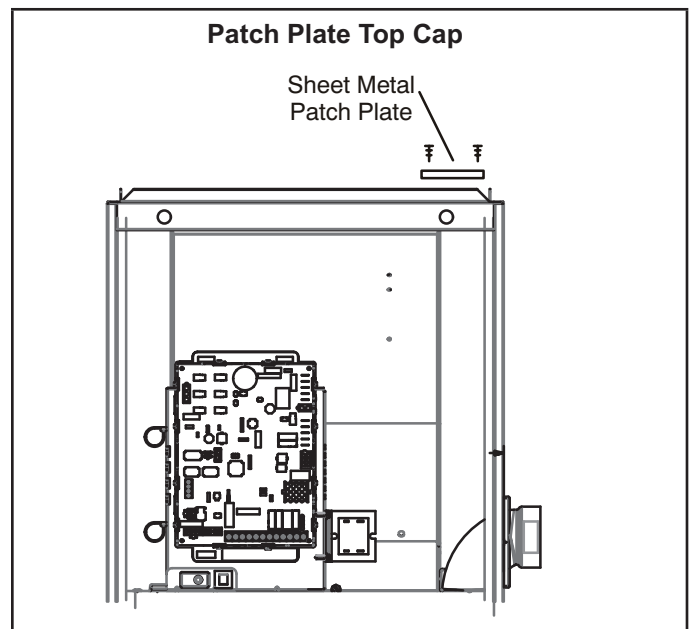
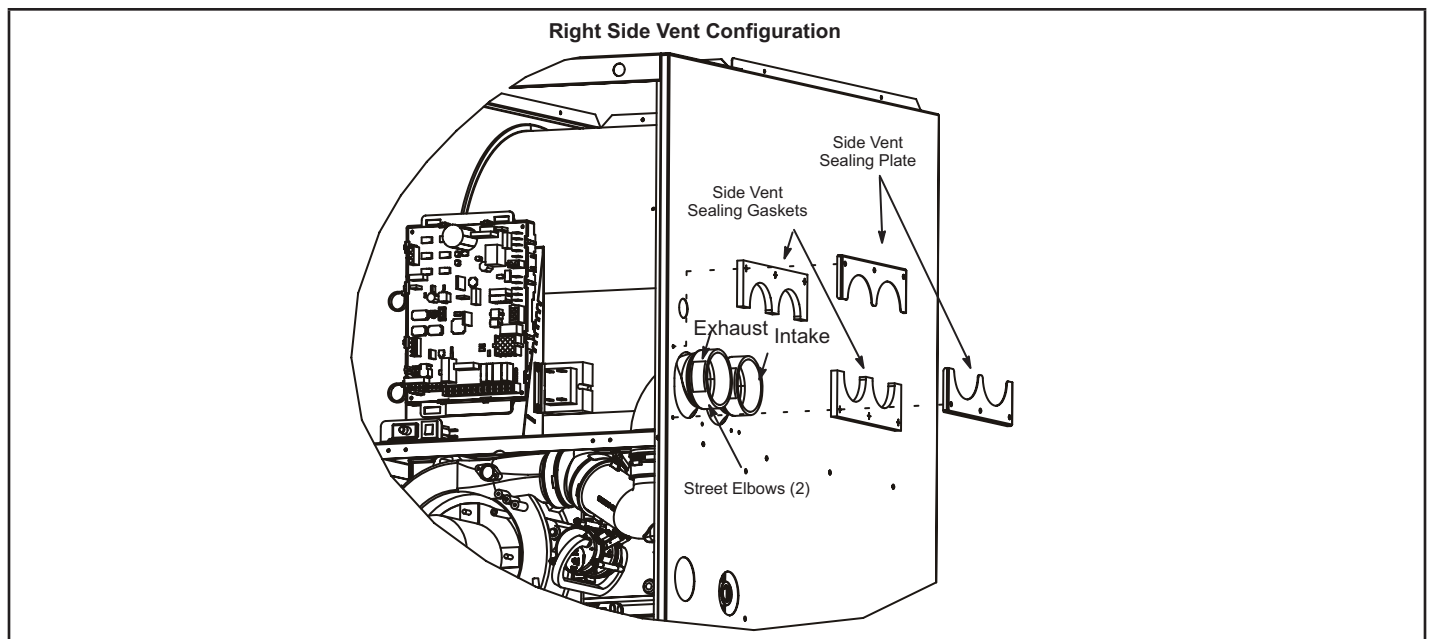

FIGURE 18
FIGURE 19
The EL297DFVK is shipped with vent exhaust / air intake connection at the top cap. See FIGURE 18. Using parts provided, the furnace may be field modified to have these connections on the right side of the furnace cabinet. See FIGURE 19 and follow the steps below. For left side venting order kit 87W73.
- 2 - Loosen hose clamps which attach rubber fittings to the white PVC pipes inside the vestibule area. See FIGURE 18.
- 8 - Re-use the patch plate to cover the hole in the top cap. See FIGURE 18. Remove the 2 screws which secure the top cap to the furnace on the right side and re-install securing the right edge of the patch plate and the right side of the top cap to the furnace. Use 2 self-drilling sheet metal screws (provided) to finish securing the left edge of the patch plate on the left side.
- 11 - Peel protective backing from side vent sealing gaskets (2) and apply to side vent sealing plates (2) as shown in FIGURE 19.
- 12 - Install the side vent sealing plates and gaskets on the exterior of the cabinet as shown in FIGURE 19. Secure with six mounting screws (four reused and two provided from bag assembly). Holes are pre-punched in the parts and cabinet, no drilling is required.